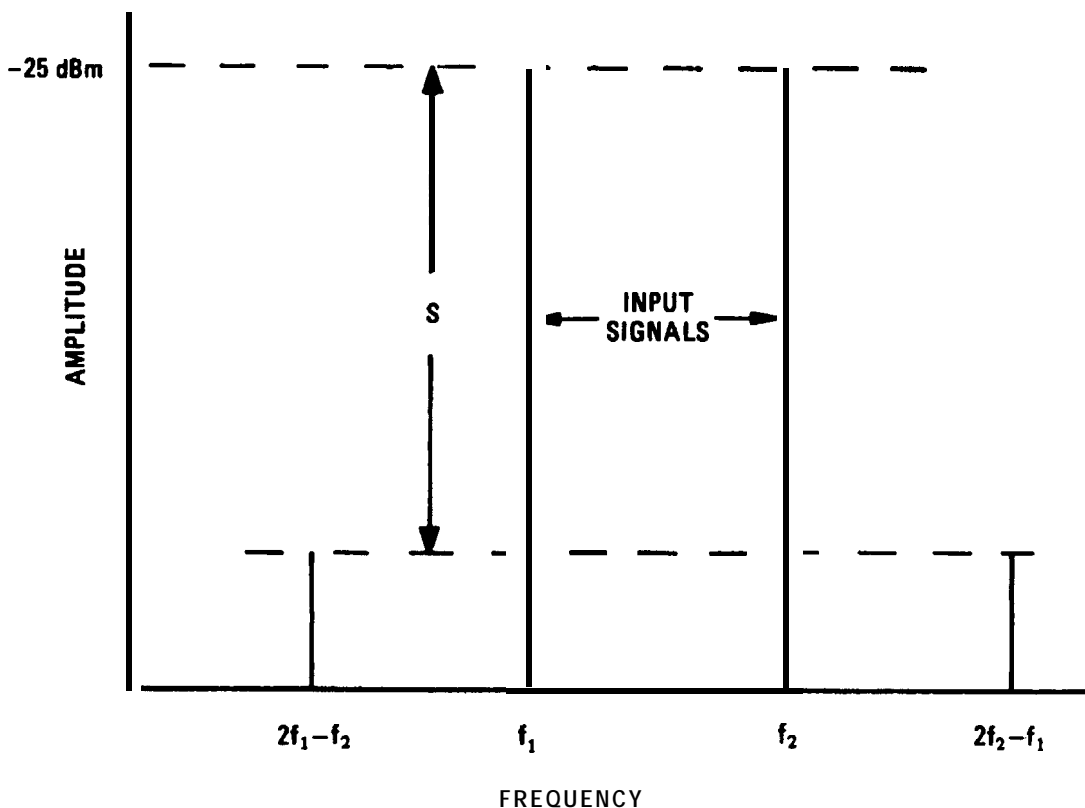

Figure 2-30. Third Order Intermodulation Products
40. The result should be > + 7 dBm. Refer to Figure 2-30.